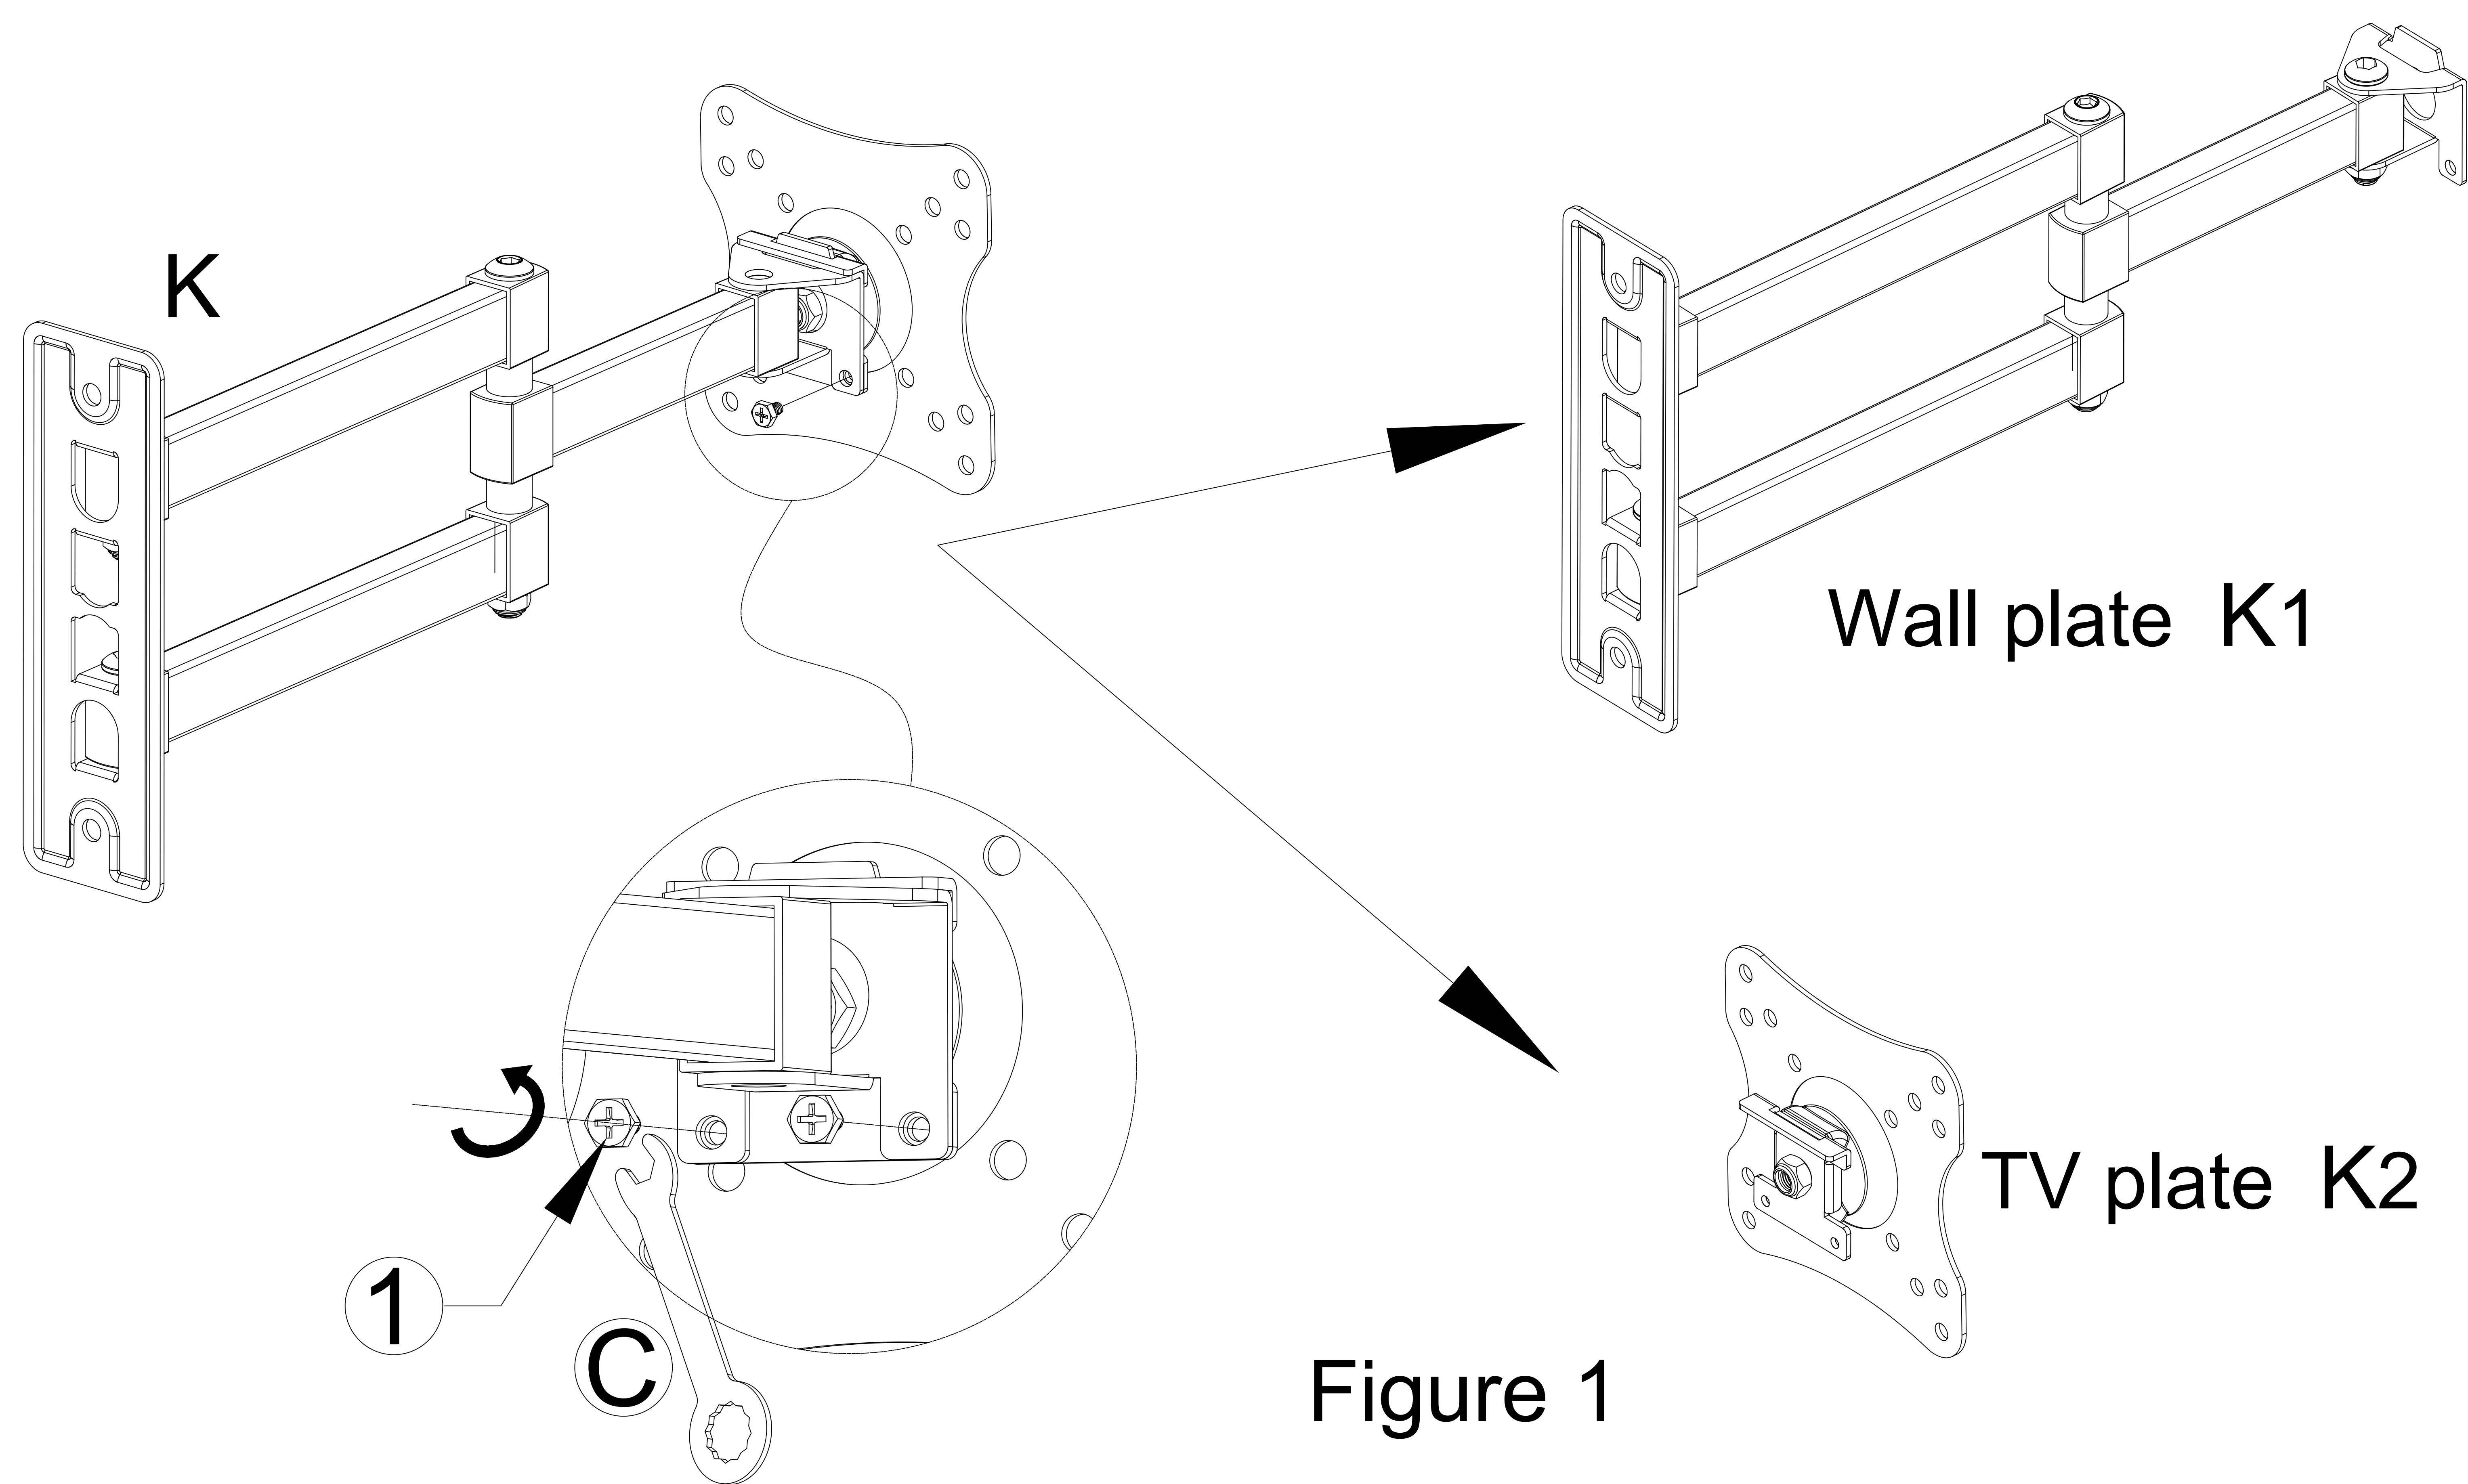

Figure 1
Step 1: Disassemble Wall Plate Unit into Two Pieces. (Figure 1)